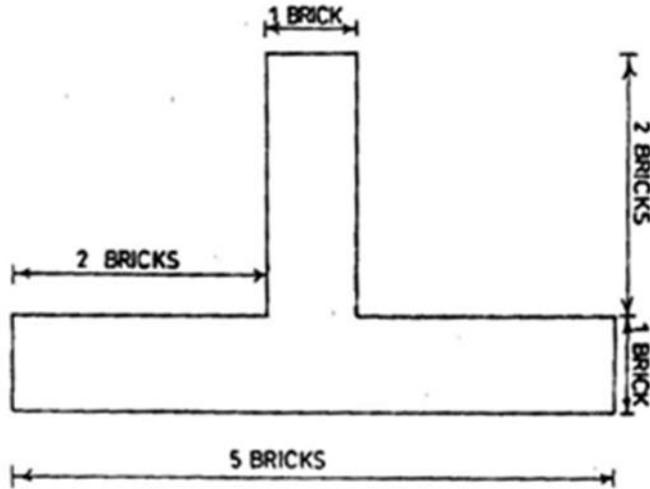

Fig. 2
- (b) Fig. 2 shows the plan of the outline of a brickwall. Sketch the: